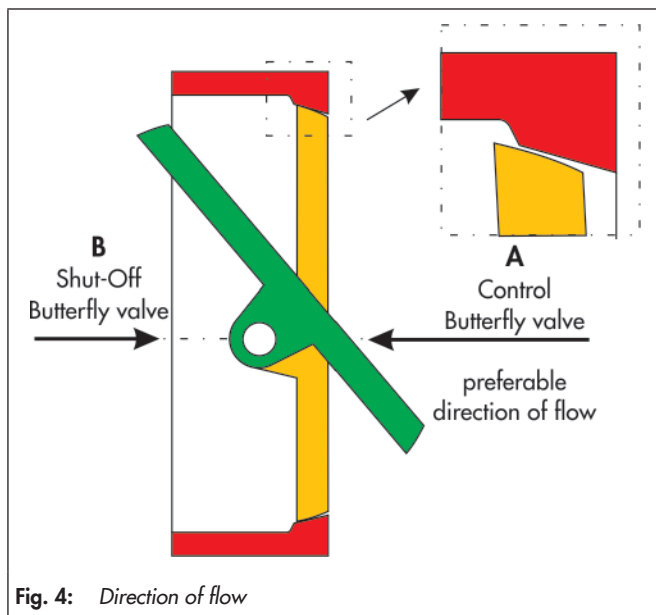

Fig. 4: Direction of flow
With butterfly valves, the seal is between the valve disc (3) and the sealing ring (8). The direction of flow and the pressure difference determine the breakaway torque to open the butterfly valve. The double eccentric bearing design of the shaft causes the disc on opening and closing to remain in contact with the seat only over a very small angle of rotation (Fig. 4).
When the process medium flows through the valve in direction **A** (Fig. 4), the butterfly disc is slightly pressed out of the seat. This reduces the pre-loaded pressure and the breakaway torque.